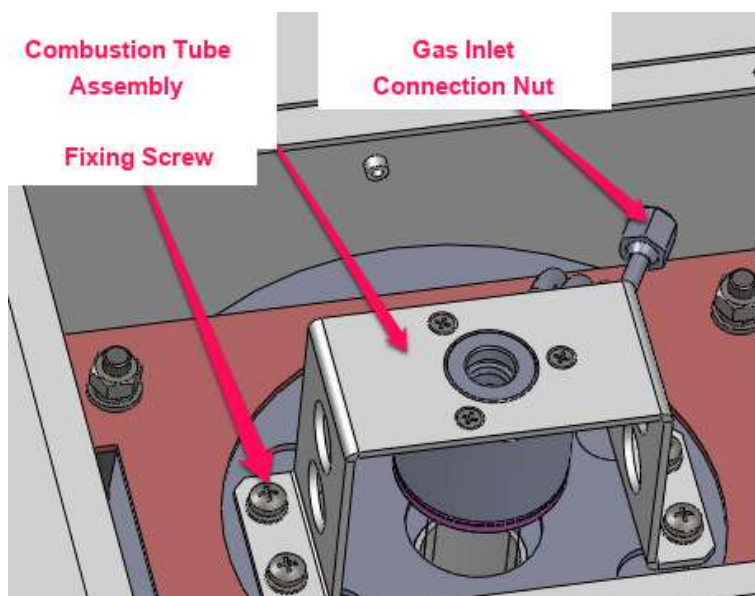

Figure 8-1
- ① Remove the combustion tube assembly (see Figure 8-1).